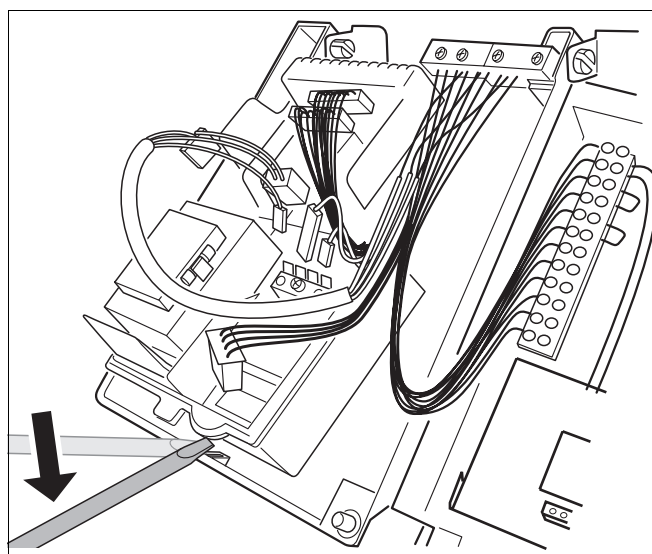

Fig. 56 Carefully lift the UBA to remove
- Carefully lift the UBA and remove by pulling forwards (snap lock) (fig. 56).